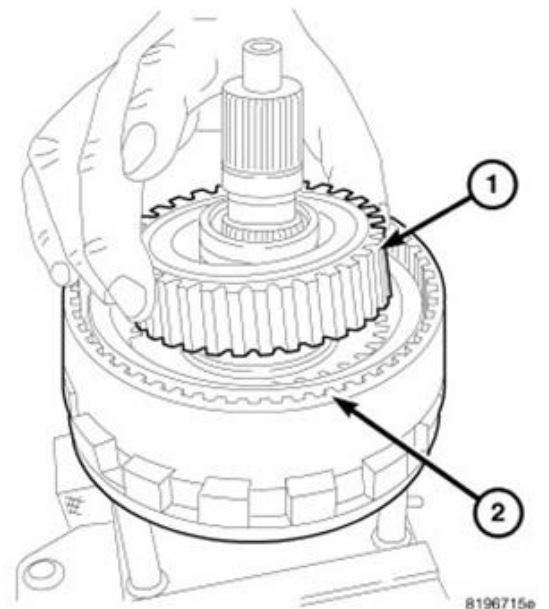

Figure 37 – Overrunning Clutch
52. Remove the overrunning clutch (1) from the low clutch (2) (Figure 37).
63. Install the overrunning clutch (1) to the low clutch (2) (Figure 37).